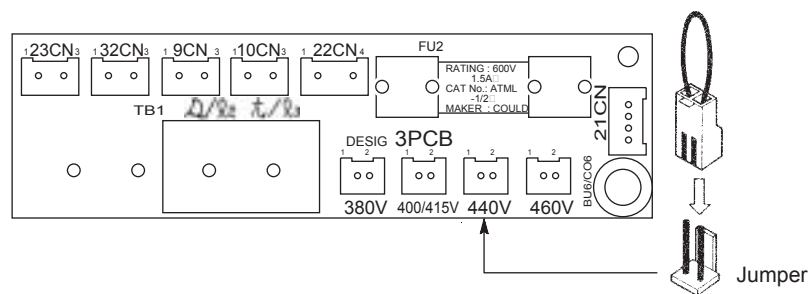

Fig. 12 Setting the Power Supply Voltage
3. Insert the jumper at the position for the voltage supplied to the VS-656DC5 (Refer to *Fig. 12*).